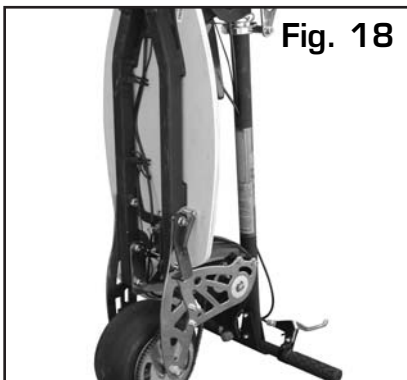

Fig. 18
5. Collapse the powerboard and position the unit upside down on the handlebars (Fig. 18).